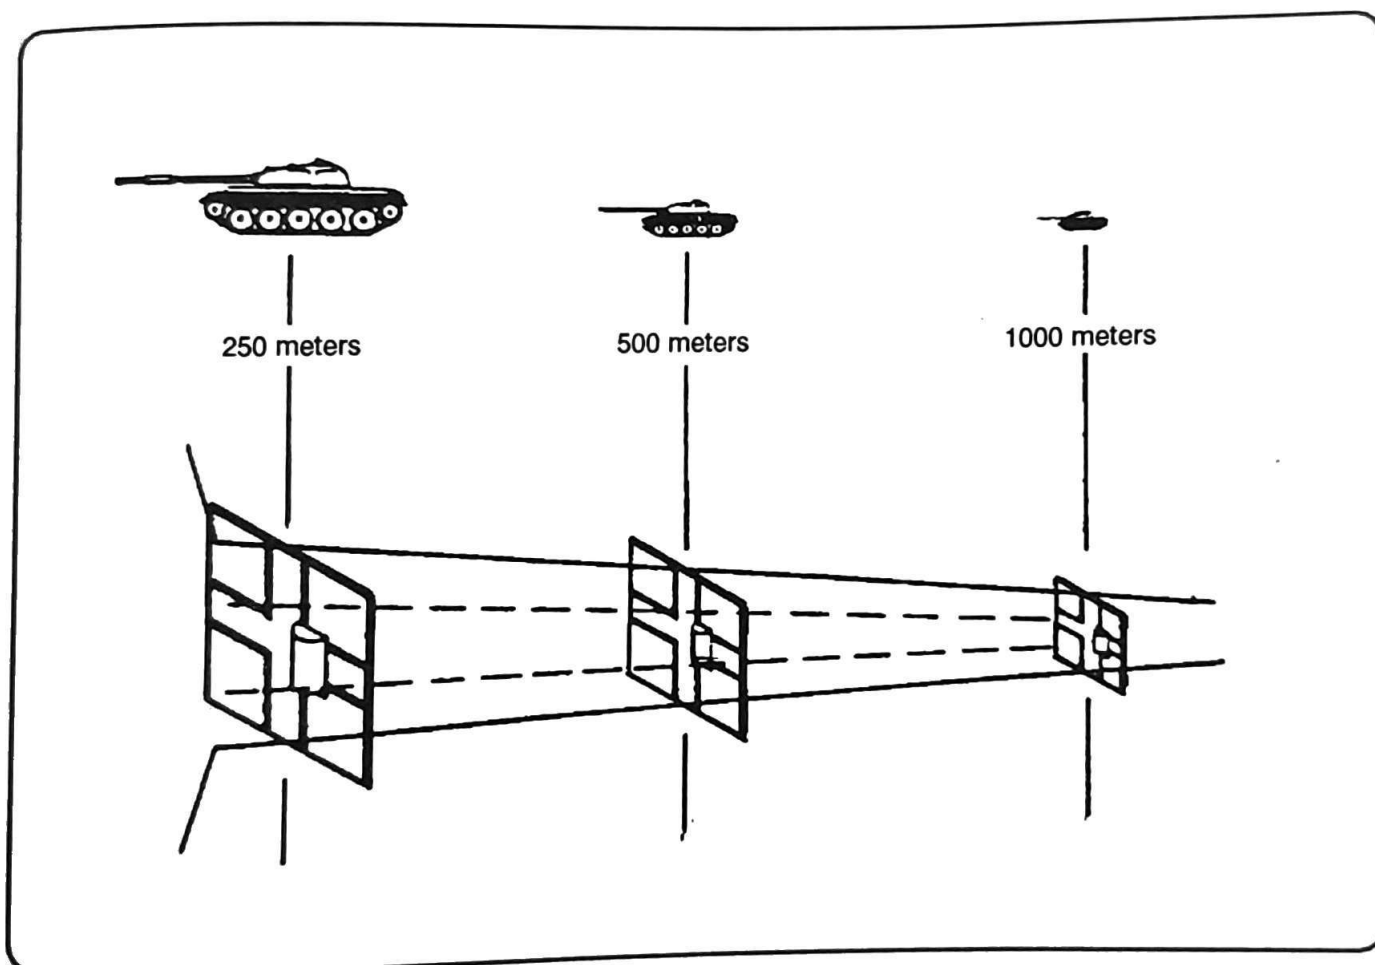

Figure 7-13. Physical relationship versus range.
d. Figure 7-13 is an example of the physical relationship of a tank at 250, 500, and 1,000 meters. That relationship is applied to the target board superimposed on the horizontal error limits of the monitoring set. A gunner must keep a tight aim point when the target vehicle is at 250 meters, and the monitoring set range program is simulating 500 or 1,000 meter ranges.